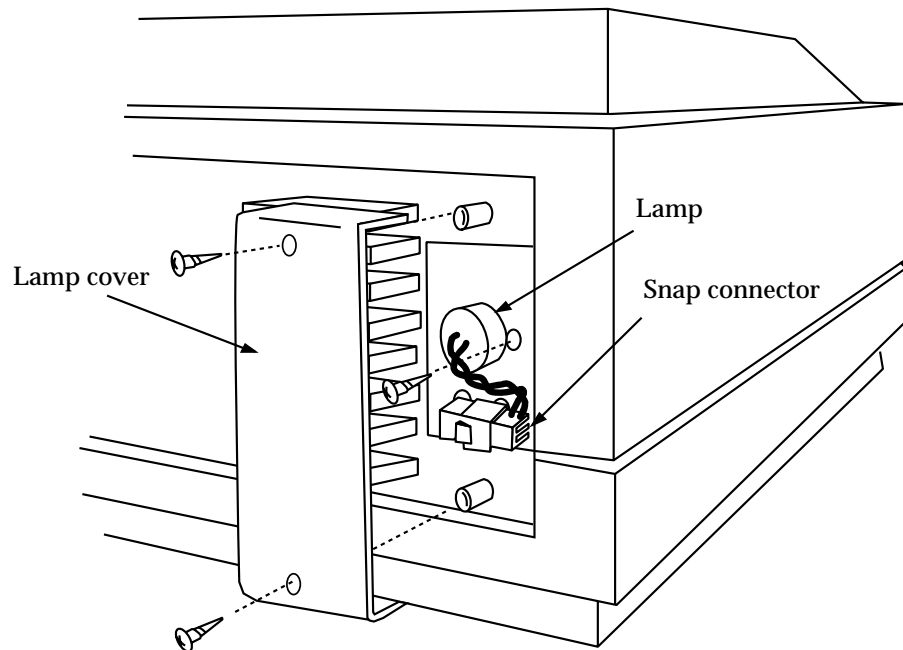

Figure 4: Removing the Lamp Cover (Emax/Vmax)
- 4) On the right hand side of the rear panel (as you face the back of the instrument) is a metal plate secured by two screws. The plate covers the lamp assembly (see Figure 4). Use a Phillips screwdriver to remove the screws, then remove the plate from the instrument.
- 5) Remove the lamp screw (on the right side of the lamp, refer to Figure 4) then gently pull the connecting wires to remove the lamp from the body of the instrument.